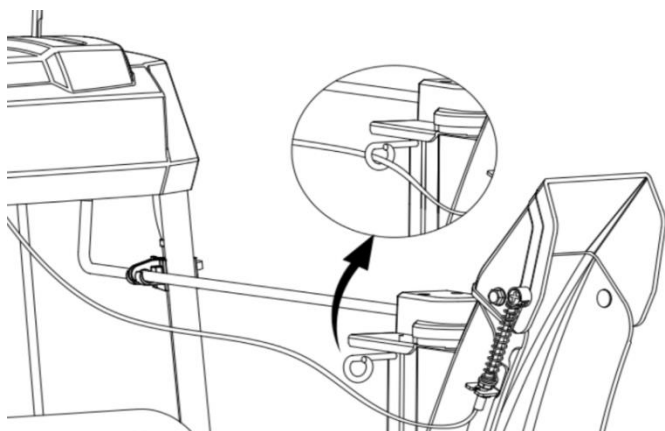

Figure 5
3. Verify that ALL cables are clear and not obstructing the Chute Handle operation of your snow thrower unit. Clip the cable into the hook. (See Figure 5)